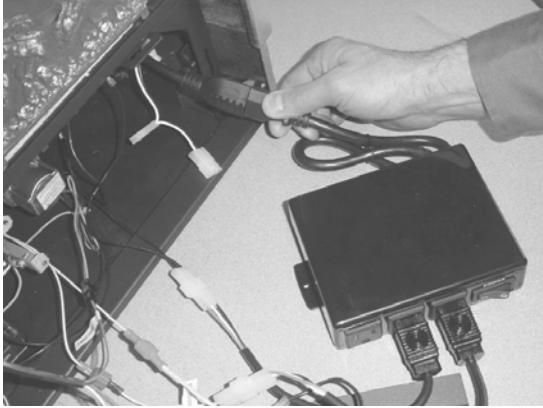
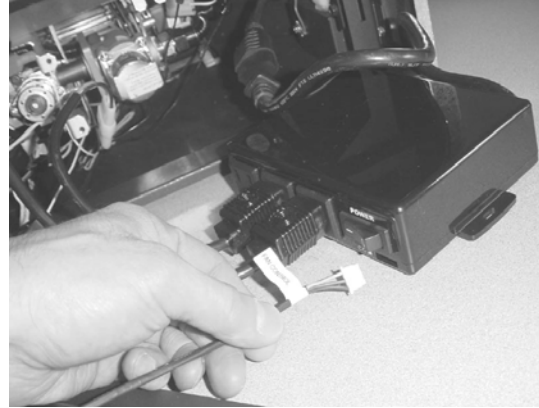

Figure 23
Figure 24
- 19 Attach the power cord on the fan controller to the receptacle on the fireplace (see Figure 23 below). Attach the connector labeled "FAN CONTROL" to the fan controller (see Figure 24 below).